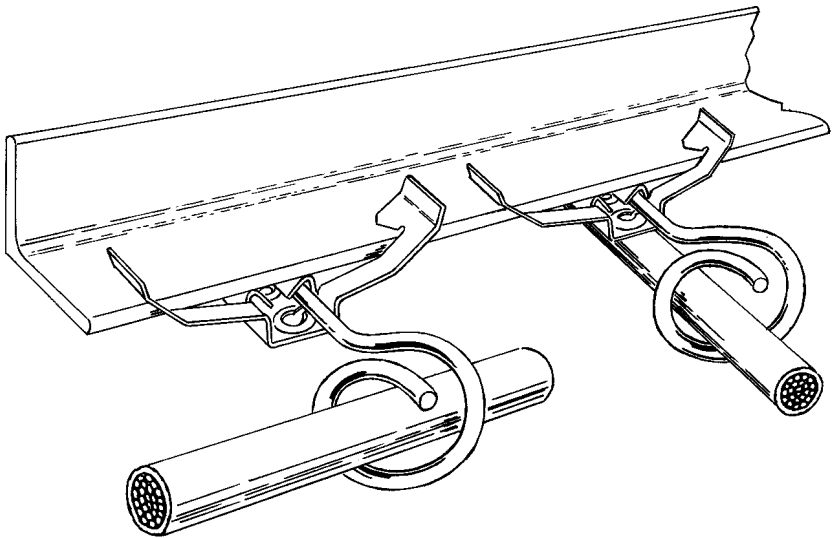

FIGURE 1
- 2.01 The UC 250 Utility Clip, Figure 1, is manufactured of spring steel and is so constructed that it may be installed without the use of hardware or tools.